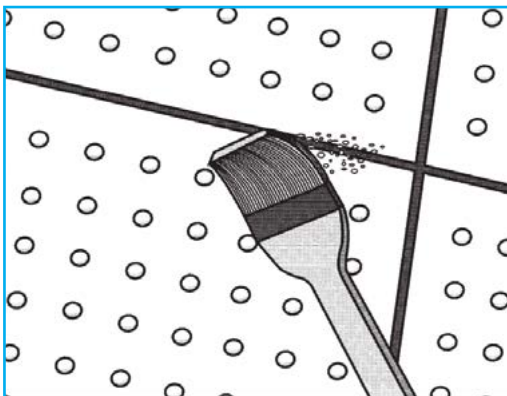

FIGURE 13 Cleaning of Joints
- Use a wet brush to clean dust from joints after fixing the boards. *[Figure 13]*